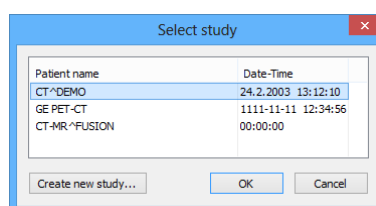

Figure 415 – Select study dialog
1. Select the existing study for the insertion of the new series from the studies list in the **Select study** dialog (see Figure 415).